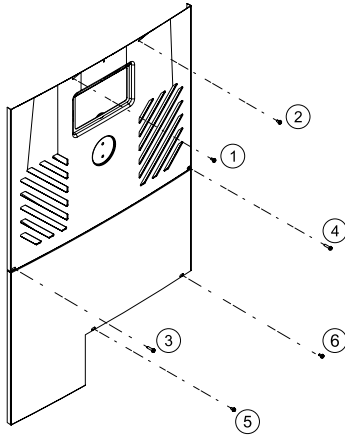

Figure 61. Sheet Metal Screws to Remove Control Panel
If service access to the heater is required, it is accomplished by removing the control cover panel and service access panel (Figure 61) to provide a wide access to get to (1) compressor, (2) heat exchanger, (3) thermal expansion valve (TXV), (4) reversing valve/solenoid valve (if equipped), (5) flow switch (if equipped), and (6) sensors (water, ambient and coil). To gain access, follow the steps below:
2. Remove the heater's front control cover panel by unscrewing the six (6) screws using a 1/4" hex head screwdriver. See Figure 61.